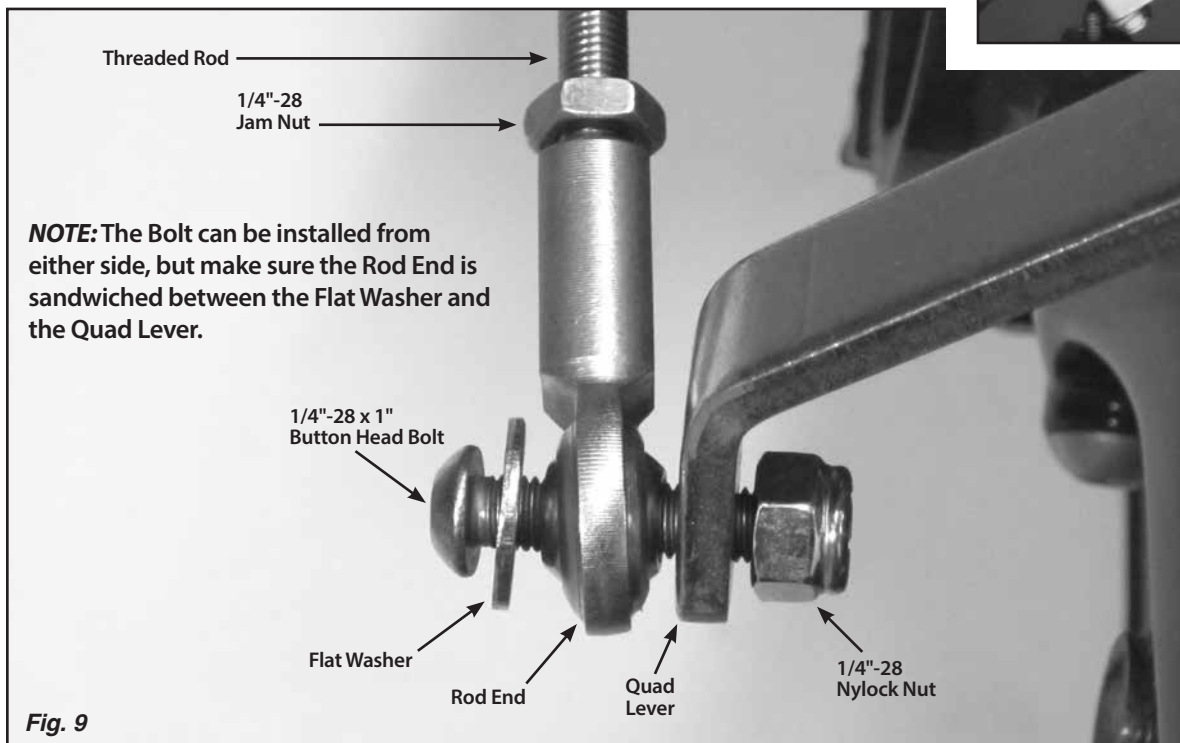

Fig. 9
**Step 14:** Verify that both 1/4"-28 jam nuts are on the threaded rod, and install a rod end onto each end of the threaded rod. Attach the threaded rod assembly to the **outside** of the quad lever and to the **inside** of the trans arm using the 1/4"-28 x 1" button head bolts, flat washers, and nylock nuts as shown in Fig. 9 and Fig. 10. The button head bolts can be installed from either direction, but make sure the rod end is sandwiched between the flat washer and the quad lever or trans arm.